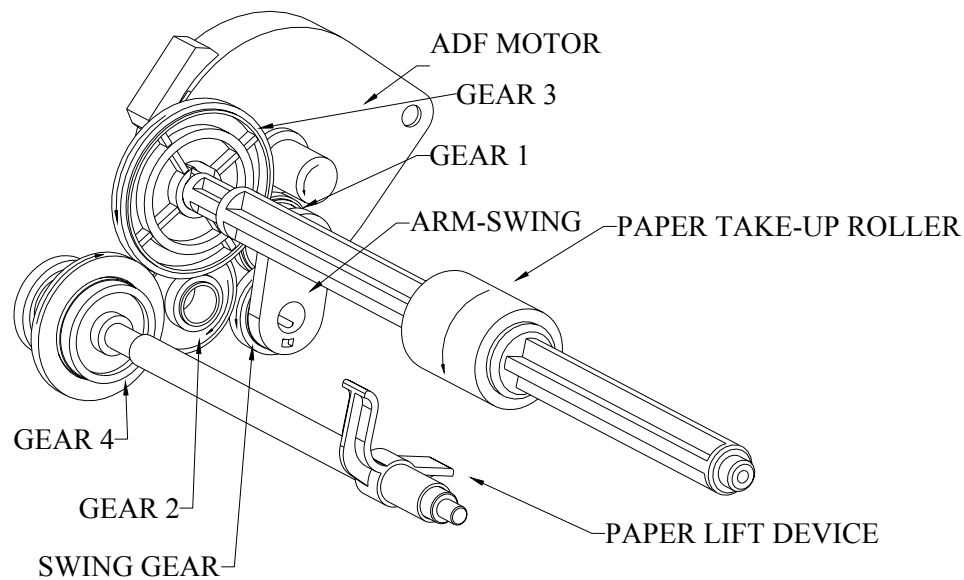

Fig 5. Transmission of ADF Power
4.2.2 Transmission of ADF Power (See Fig 5)